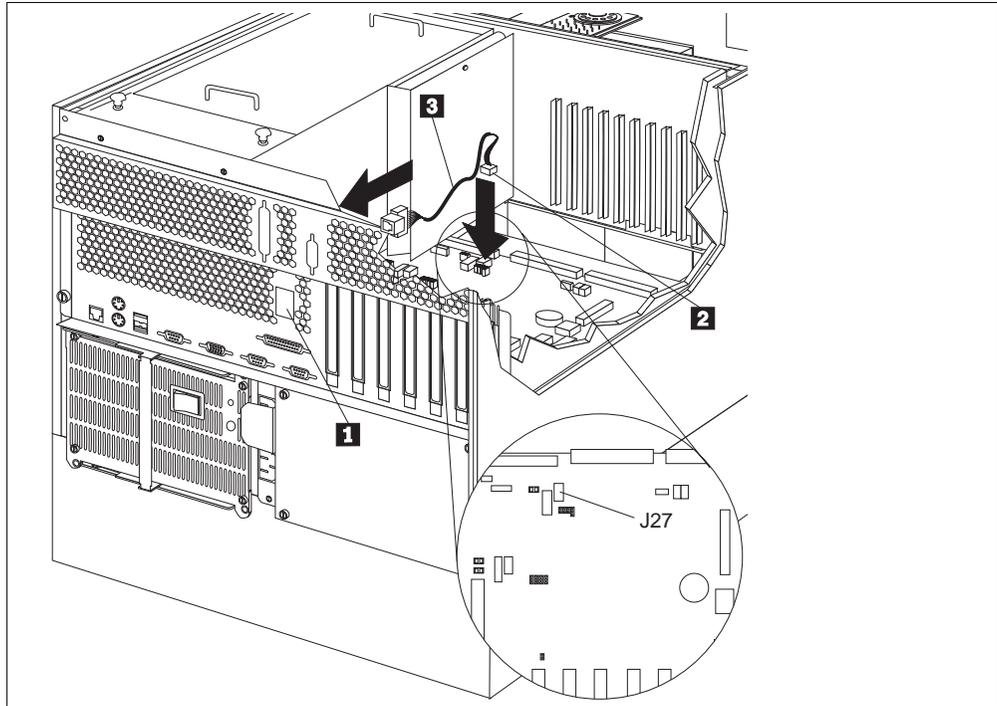

Figure 56. Netfinity 5500 Connections
3. Remove the knockout (1 in Figure 56).
- On the Netfinity 5500 connect the cable from the J27 connector (2 in Figure 56) to the knockout on the server (1 in Figure 56).